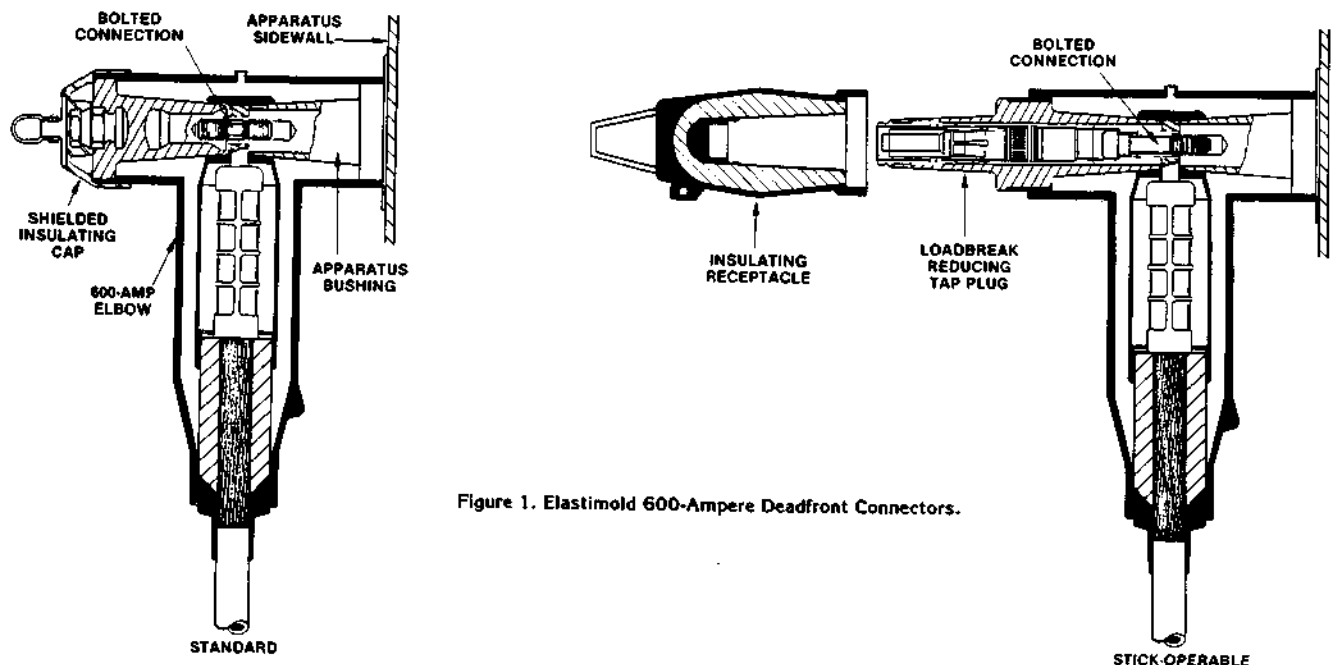
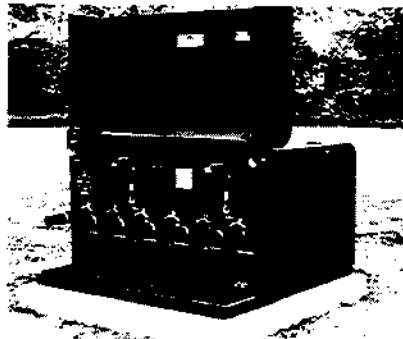

Figure 1. Elastimold 600-Ampere Deadfront Connectors.
Figure 9. Three-Phase Apparatus Switch — Normal Operating Conditions
Figure 1 shows, on the left, a cross-sectional view of a standard 600-amp deadfront cable connector, assembled to the mating bushing on a piece of apparatus. When the connector is completely installed and tightened, it can perform its current-carrying function in a fully insulated and shielded mode. The connector is designed
The growing interest in using these 600-amp separable connectors as operating points, involving more-frequent disconnection and reconnection for maintenance, repair, and system revisions led to the development of the connector system shown at the right in Figure 1. It accommodates the necessary additional functional requirements efficiently, as will be described and illustrated in the pages that follow. Just as important, it optimizes the safety for the operator at every step. Safety-engineered connector modifications and hot-stick tools have been devised to simplify and safeguard the accomplishment of all operational functions.
**TEST.** Since the connectors are designed for total deadbreak operation, the circuit must be tested to confirm that it is indeed de-energized, prior to the attachment of any grounding device. The loadbreak reducing tap plug provided in the connector (Figure 1) includes an accessible bushing point for insertion of a standard 200-ampere test rod, as a meter contact point. You would follow your established procedures for performance of this test.
Figure 9 shows the input and output connections of a three-phase line to bushings on a three-phase apparatus switch, as they would be in normal circuit operation. As indicated in Figure 1, the STICK-OPERABLE Connector elbow is equipped with a loadbreak reducing tap plug (which presents a standard 200-amp loadbreak interface at its outer end), capped off by a standard 200-amp insulating cap. Small metal mounting brackets ("parking stands") are installed on the apparatus wall adjacent to each connector; these will be used in supporting the dismantled connectors during the subsequent operations.